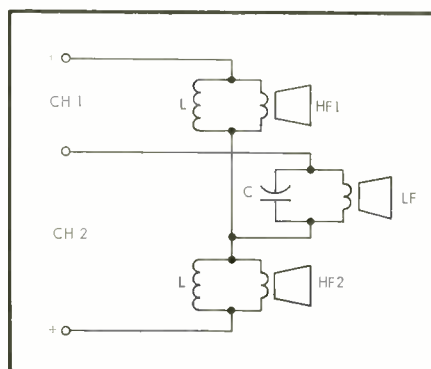
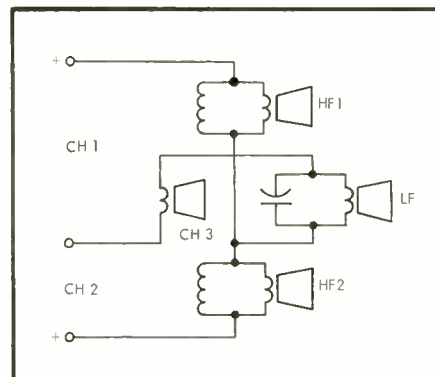

Fig. 1. Common-bass connections. L and C chosen for crossover at 350 cps.
Fig. 2. Common-bass system with derived center channel.
Q. Since the directional effect of speakers occurs at frequencies above about 350 cps, I believe, would there be objection to using one (common) woofer for frequencies below 350 cps and two mid-high-frequency units for frequencies above. It seems to me that in this manner better frequency response could be obtained by using one good-quality woofer rather than two lesser units. My proposed wiring of such a system is shown in Fig. 1. Wiring for derivation of a center channel is shown in Fig. 2. The third, or center, channel could also be used for an extension speaker. C. J. Hill, San Francisco, California.